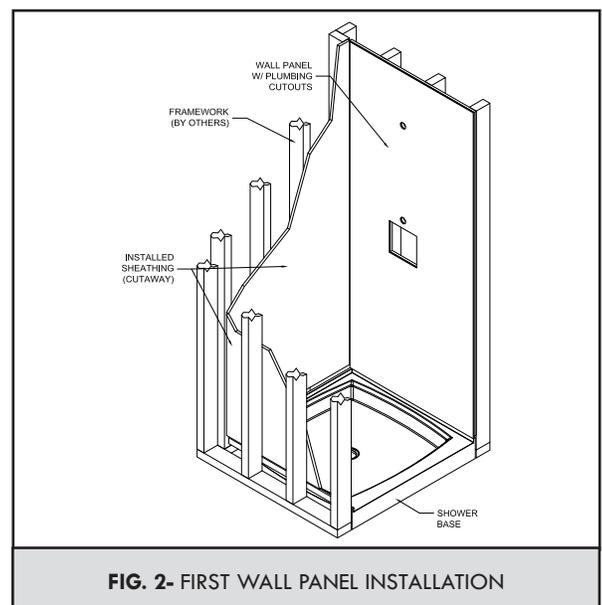

FIG. 2- FIRST WALL PANEL INSTALLATION
5. Once the side panel is cut, measure and mark the locations for the plumbing outlets. Cut the holes larger than what is required for plumbing outlets. Apply commercial grade urethane adhesive, such as Bostik 1100FS, to drywall and install the panel, making sure to leave a 1/16" gap between the bottom edge of the panel and the top of the shower pan (**SEE FIG. 2**).